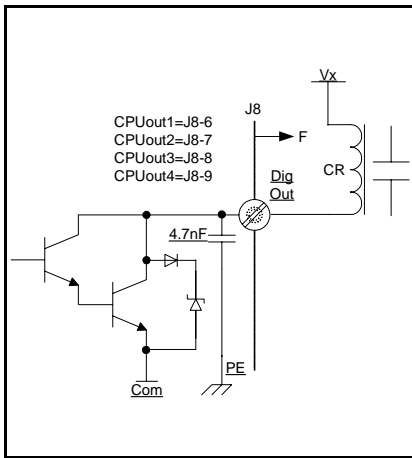

Fig. 4.12 CPU digital output example
- Four programmable outputs are available. (Fig.4.12)